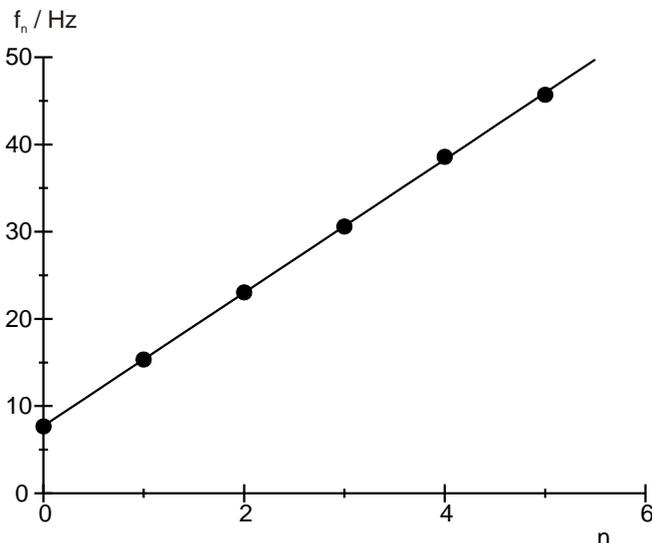

Fig. 6: Resonant frequency as a function of the number of nodes for waves along a coil spring
- Plot a graph of the resonant frequencies f_n for waves along the coil spring (Table 1) and waves along a rope (Table 2) against the number of nodes n in the oscillation and fit straight lines to the results in each case (Fig. 6, Fig. 7).